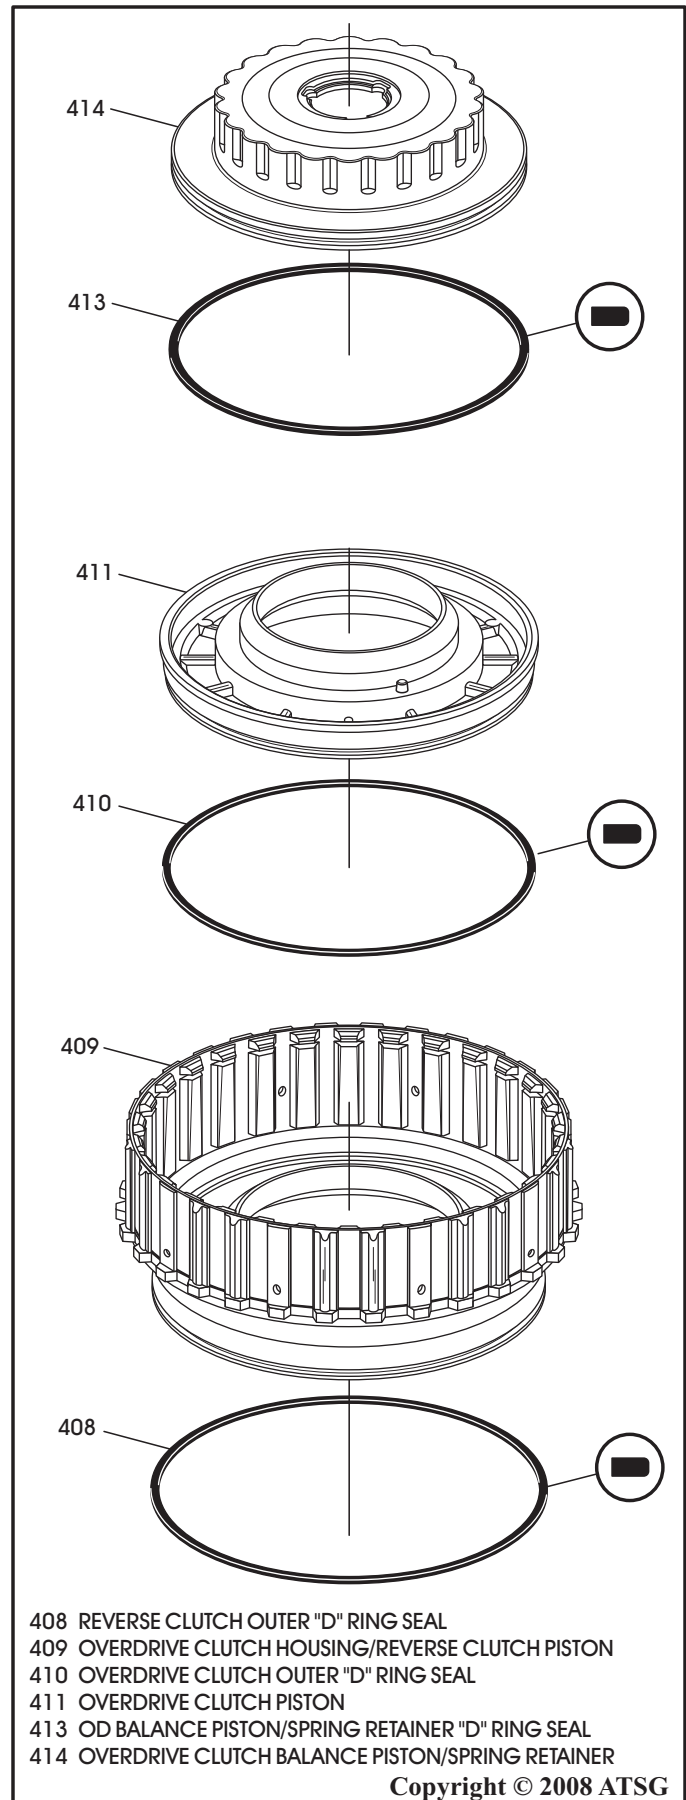

Figure 89
5. Install new outer piston seal in the groove of balance piston, as shown in Figure 89.
6. Install new outer piston seal in the groove of overdrive piston, as shown in Figure 89.
7. Install new outer piston seal in the groove of reverse piston, as shown in Figure 89.